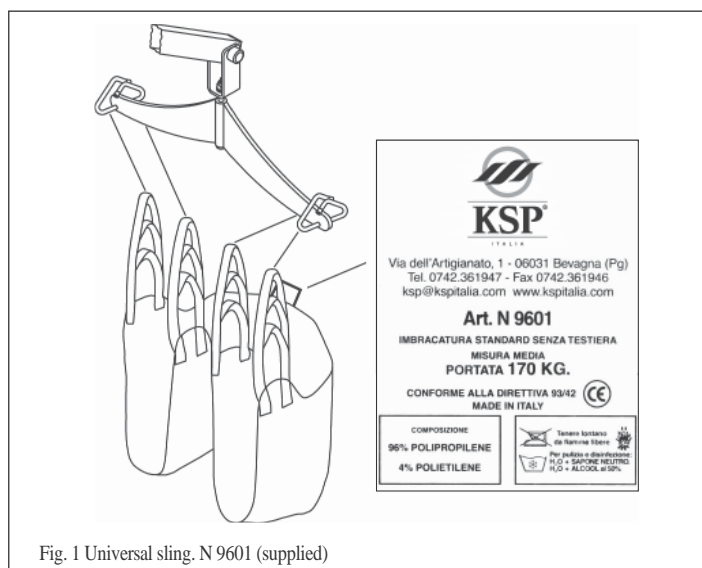

Fig. 1 Universal sling. N 9601 (supplied)
3.1 Mounting of the GEMINI (Figure 1)
- Place the support column vertically (1) with respect to the base (2) until the stop and secure it in place with the supplied bolts (3).
3.1.1 Connecting the electrical wiring (Figure 1)
4.1 Using the GEMINI hydraulic version (Figure 1)
- Place the patient on the rigid stretcher sling (1).
- Fix the slots (2) of the two belts of the rigid stretcher sling (1), the hooks of the sling support (3) and gently lift the patient.
- If the weight is unbalanced, lower the lifter arm and move the slots (2) on the centring balls (4), in the direction of greater weight.
4.6 Use of the adjustable GEMINI base (Fig.1 Par. 4)